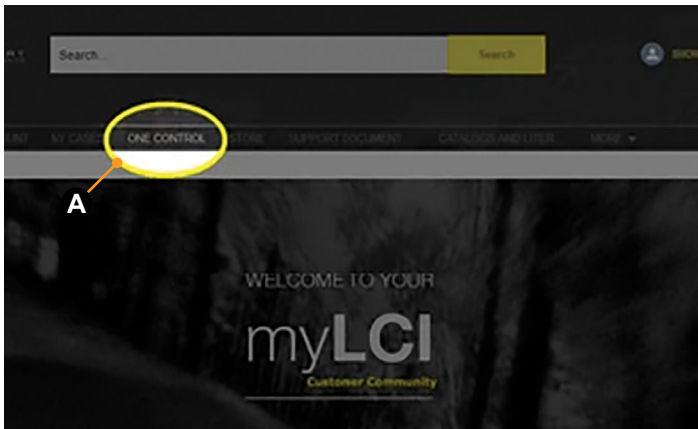

Fig.28
2. From within the LCI Customer Community portal (Fig.28), navigate to the "One Control" tab (Fig.28A) then click on the link.